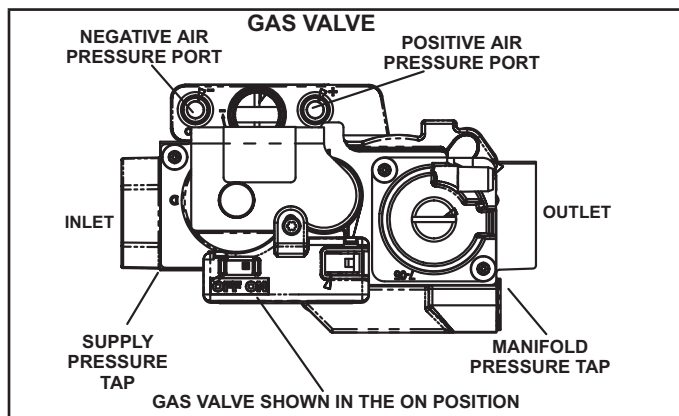

FIGURE 63
## Gas Valve Operation (“FIGURE 63”)
- 6 - Move gas valve switch to OFF. See “FIGURE 63”.
- 8 - Move gas valve switch to ON. See “FIGURE 63”.